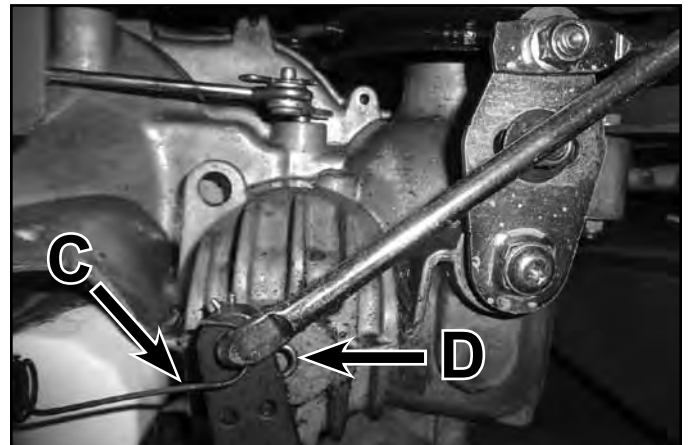

Fig. 043
5. Remove the brake return spring (C) and the clip and washer (D) from the brake rod on the hydro (Fig. 043).